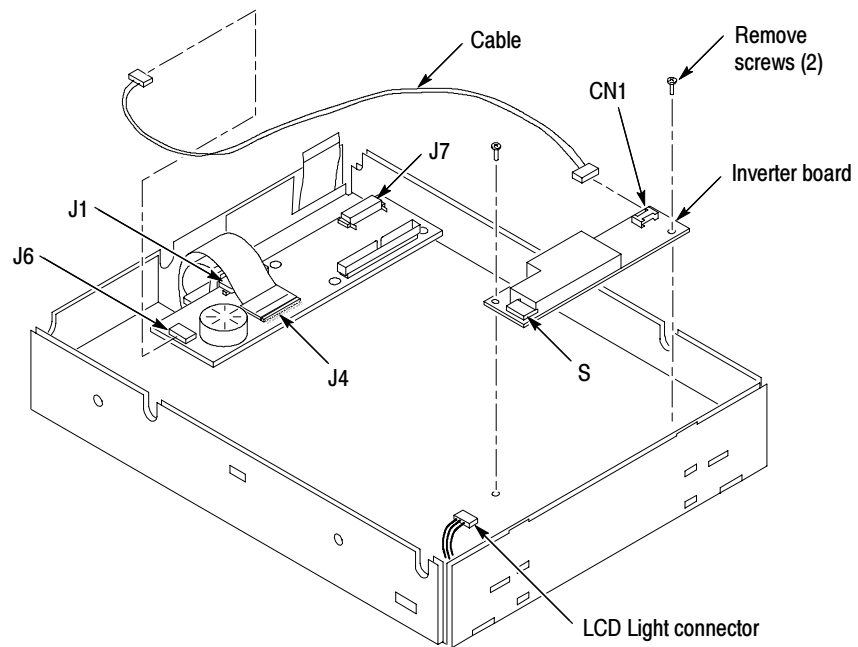

Figure 4: Remove inverter circuit board
- a. Disconnect cables J1, J4 and J7 from the Display Adapter circuit board. See Figure 4, on page 11.
- b. Disconnect LCD light connector (S) from the Inverter circuit board.